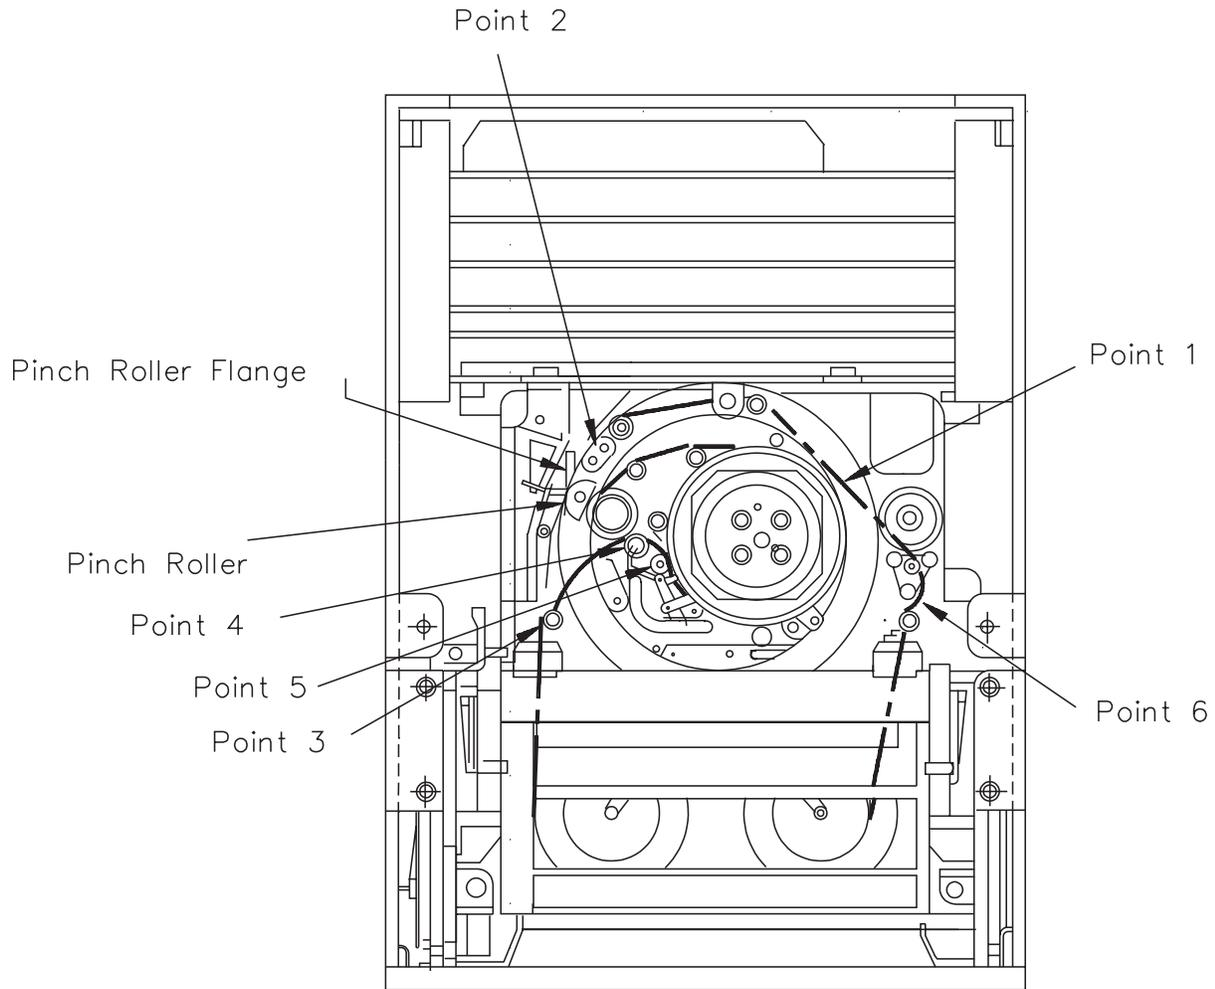

Figure 17-4
5. Remove the tape from around the guide posts and rollers at points 3 and 4, shown in Figure 17-4. Be sure to place the tool inside the tape loop to avoid touching the tape recording surface or the rotating head assembly.
6. Position the tool between points 4 and 5 inside the tape loop. Point 5, shown in Figure 17-4, is an “L” shaped molded black plastic part. The “L” is mounted upside-down and prevents the tape from riding up over the rotating drum. Gently move the tape up so that it passes between the “L” and the edge of the rotating head assembly.
7. Lift the tape from around the guide posts and roller at point 6, shown in Figure 17-4. Be sure to place the tool inside the tape loop.